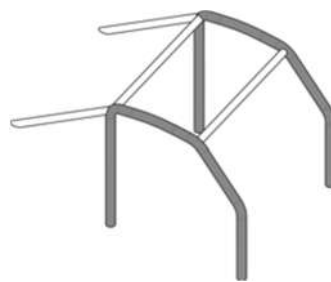

Fig. 7B
- 2 lateral arches, the 2nd cross-section elements, the 2nd rear props (fig. 7B);